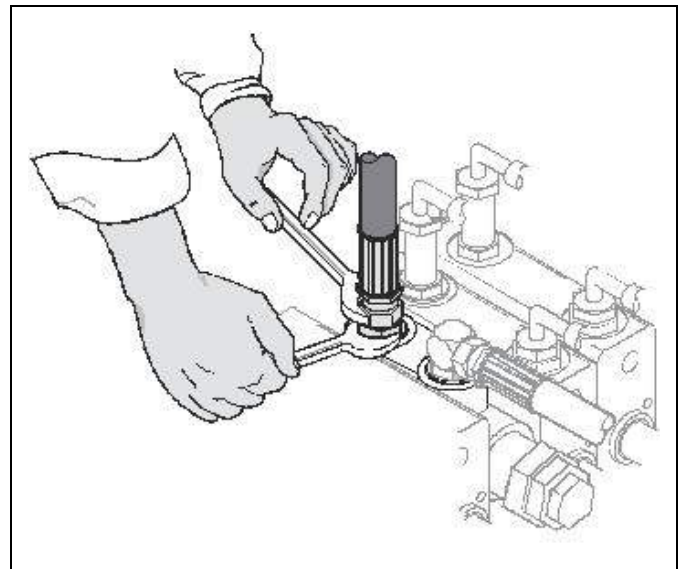

Figure 3-14: Hydraulic Connections
5. Remove the hose coupling from the defective fitting. Use two wrenches; one wrench to loosen the hose coupling, and one to prevent the fitting from turning. Be prepared to clean up any oil spillage. See Figure 3-14.